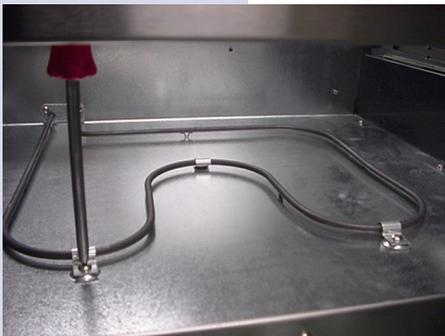

Figure 7
6. Remove the 2 screws at the front of the element. (Figure 7)